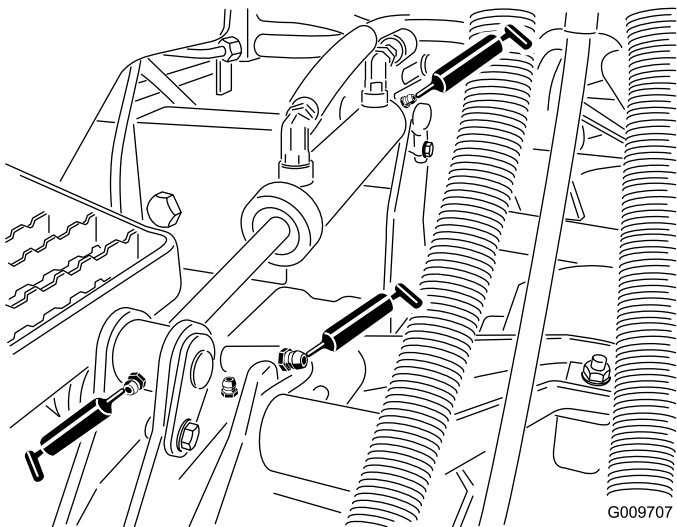

Figure 41
- Lift-arm bushings (1 per cutting unit) as shown in Figure 41
- Lift-cylinder bushings (2 per cutting unit) as shown in Figure 41